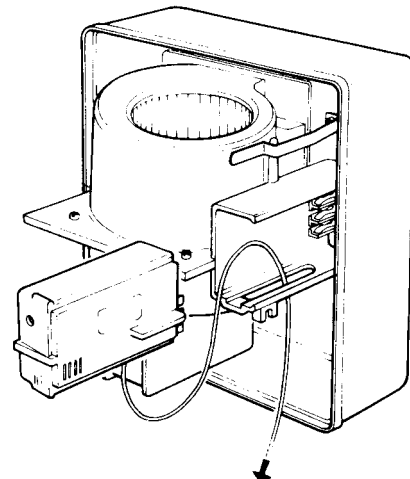

Fig. 5. Feeding the pull-cord through the housing.
6. Fit the fan assembly to the case, securing it with the two spring clips. Install the electronic control module ensuring that it is fully engaged in the internal socket. If the pull-cord option is required it should be fed through the aperture on the impeller housing before sliding the control module into place. Fig. 5. (If the pullcord option is not required it must be removed, see the warning note on page 1).
7. Replace the front cover and secure using the two screws provided loose with the filter and instructions. Ensure pull cord (if fitted) passes through the slot in the base. Fig. 5.
7. Fit the electronic control module, ensuring that it engages with the internal socket. Note: If pullcord option is required, the cord should now be fed through the aperture and into the small slot in the base. see Fig.5. (If pullcord is not required it must be removed, see warning note on page 1).